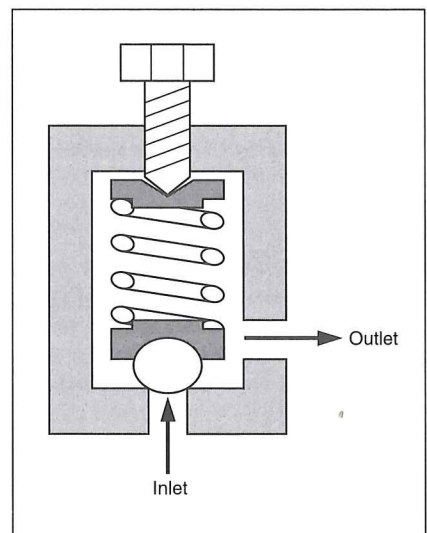

Fig. 9-13 — When pressure force exceeds spring force in this relief valve, the valve opens and allows low-pressure flow to the reservoir.
**Relief valves.** The most common pressure-control valves, Fig. 9-13, relief valves keep pressure from exceeding a preset level. A spring normally holds the relief valve closed until the pressure level is such that the force acting on the valve seat exceeds the spring force. This opens the valve, permitting flow to the reservoir at low pressure. Maximum pressure rating for relief valves is published by the manufacturer.